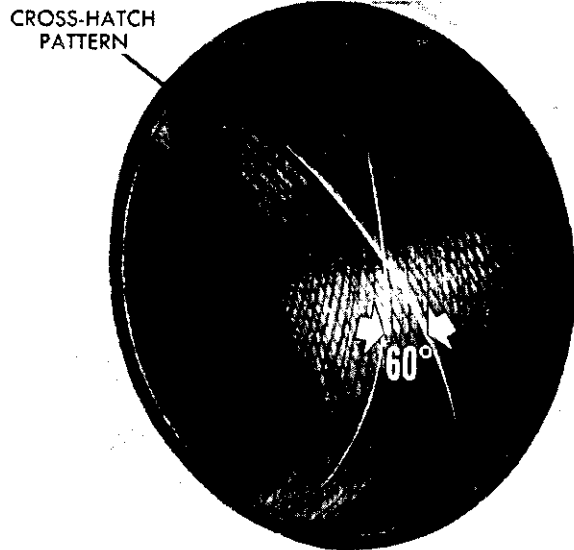

Fig. 37—Cross Hatch Pattern
(1) Used carefully, the cylinder bore resizing hone C-823 equipped with 220 grit stones, is the best tool for this job. In addition to deglazing, it will reduce taper and out-of-round as well as removing light scuffing, scoring or scratches. Usually a few strokes will clean up a bore and maintain the required limits.
(2) Deglazing of the cylinder walls may be done using a cylinder surfacing hone, Tool C-3501, equipped with 280 grit stones (C-3501-3810) if the cylinder bore is straight and round. 20-60 strokes depending on the bore condition will be sufficient to provide a satisfactory surface. Inspect cylinder walls after each 20 strokes. Use honing oil C-3501-3880 or a light honing oil available from major oil distributors. **Do not use engine or transmission oil, mineral spirits or kerosene.**
(3) Honing should be done by moving the hone up and down fast enough to get a cross-hatch pattern. When hone marks intersect at 60°, the cross hatch angle is most satisfactory for proper seating of rings (Fig. 37).
(4) After honing, it is necessary that the block be cleaned again to remove all traces of abrasives.